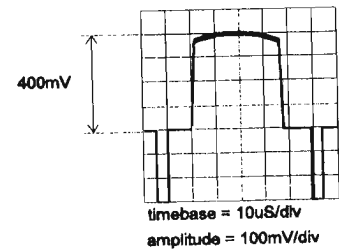

Figure 9
- c) Measure VIBS (WK3:MP7) with respect to 0 V (WK4:MP1), trigger external on the mid-line WK5, and adjust the threshold to $400\text{ mV}_{\text{top}}$ with **WK3:P6** (see Figure 9).
- b) Measure VIBS and adjust the threshold to $400\text{ mV}_{\text{top}}$ with **WK3:P7** (see Figure 9).